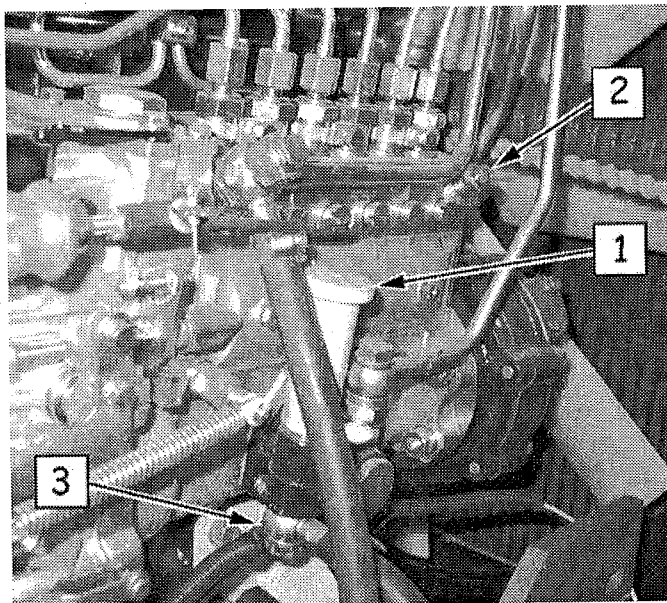

Fig. 3-5 Fuel Injector Unit
1. Loosen the bleed screw (fig. 3-5)
The strainer is located in the inlet side banjo bolt (see fig. 3-5 & 3-5a). Remove strainer and clean with compressed air. Rinse in diesel fuel.